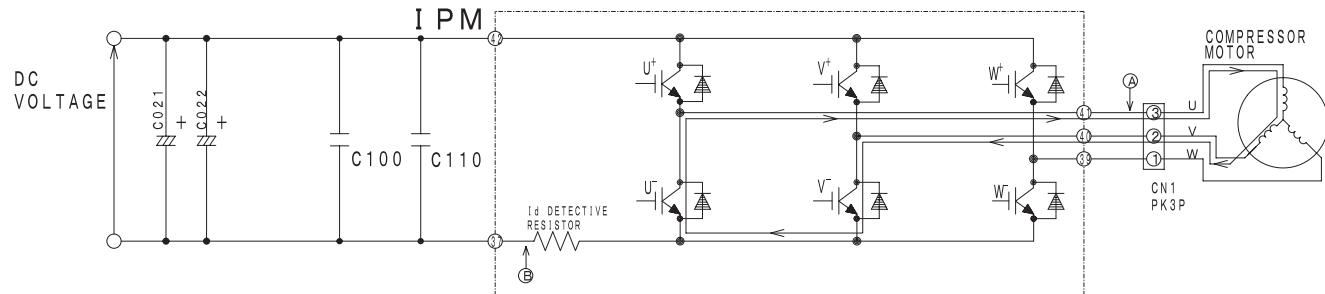

Fig. 4-4 Power module circuit (U^+ is ON, V^- is ON)
At point ⑥: U+ is chopped (OFF), V is ON (circuit in Fig. 4-4)
- (2) When U^+ transistor is OFF: (by inductance of motor coil) U coil \rightarrow V coil \rightarrow V^- transistor \rightarrow Return diode \rightarrow Point ⑧ (Fig. 4-4)